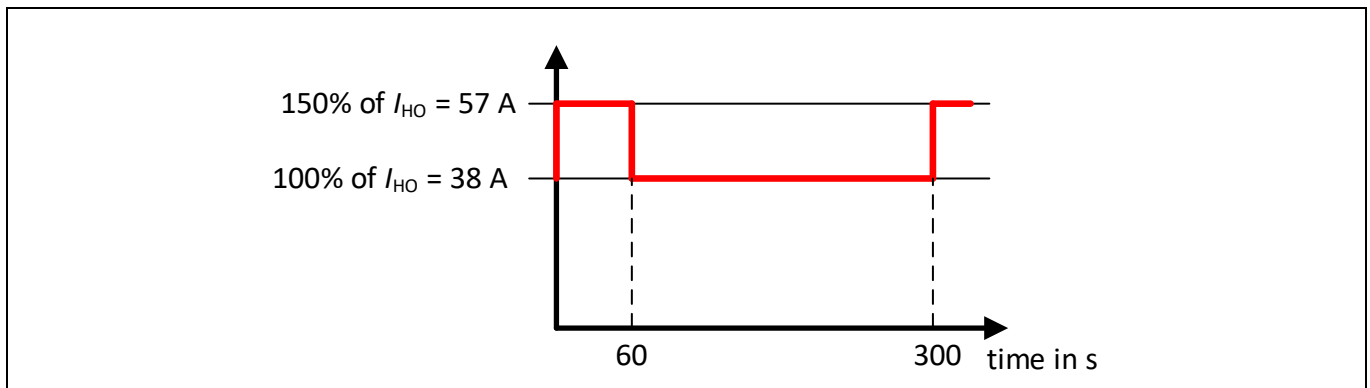

Figure 4 Overload profile heavy duty
The heavy duty (HD) load cycle permits dynamic accelerating phases at a reduced base load; see Figure 4.